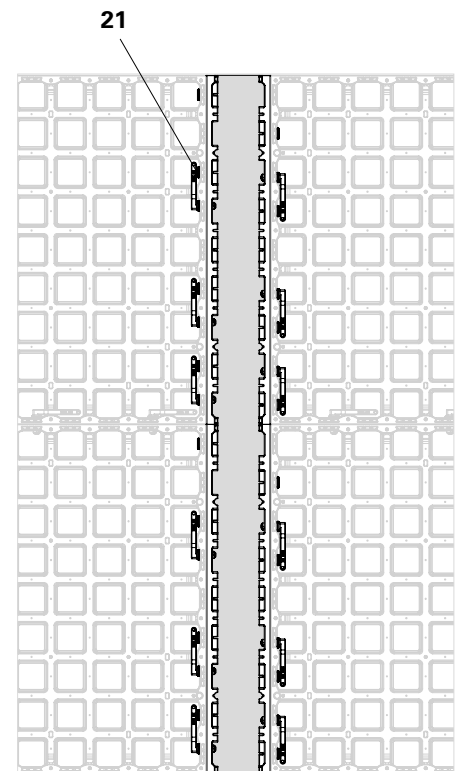

Fig. B8.06a
1. Mount the filler support (16) on both panels using 6 DUO couplers (21) each! (Fig. B8.06a)
2. Cut the 18 mm filler plate (60) 2 cm narrower than the length to be compensated. Insert the filler plate. From outside, tighten the Torx 5 x 15 screws through the screw holes provided in the filler support.